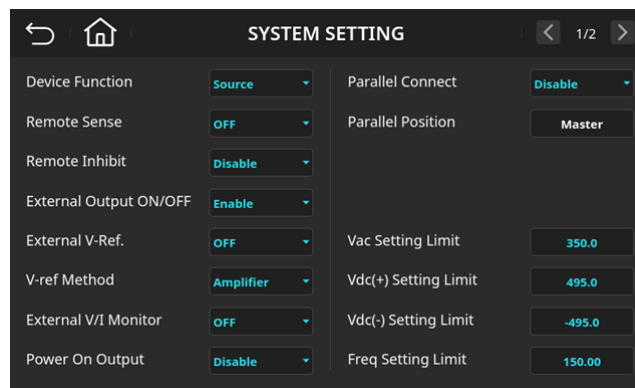

Figure 6-5 System Function Setting Page (External Output ON/OFF = Enable)
2. Select “Enable” to activate the remote output control function, as shown in Figure 6-5.